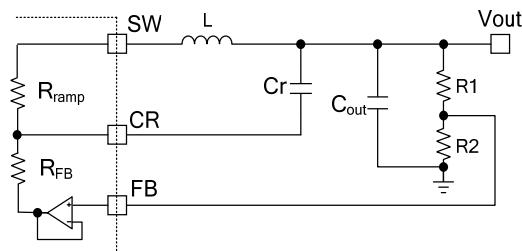

Figure 7: Simplified External Ramp Circuit in PWM Mode with Small ESR Capacitor
Figure 7 shows simplified external ramp compensation for PWM mode. Choose the external ramp (C_r) to meet the condition in Equation (7):